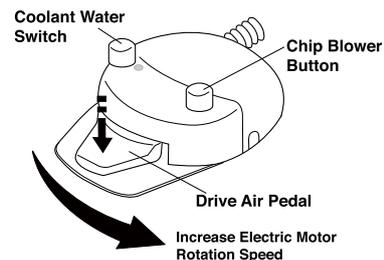

Fig.3-33 Electric Motor Foot Control (Type SE)
(2) Electric Motor Foot Control (Type SE) (Fig.3-33)